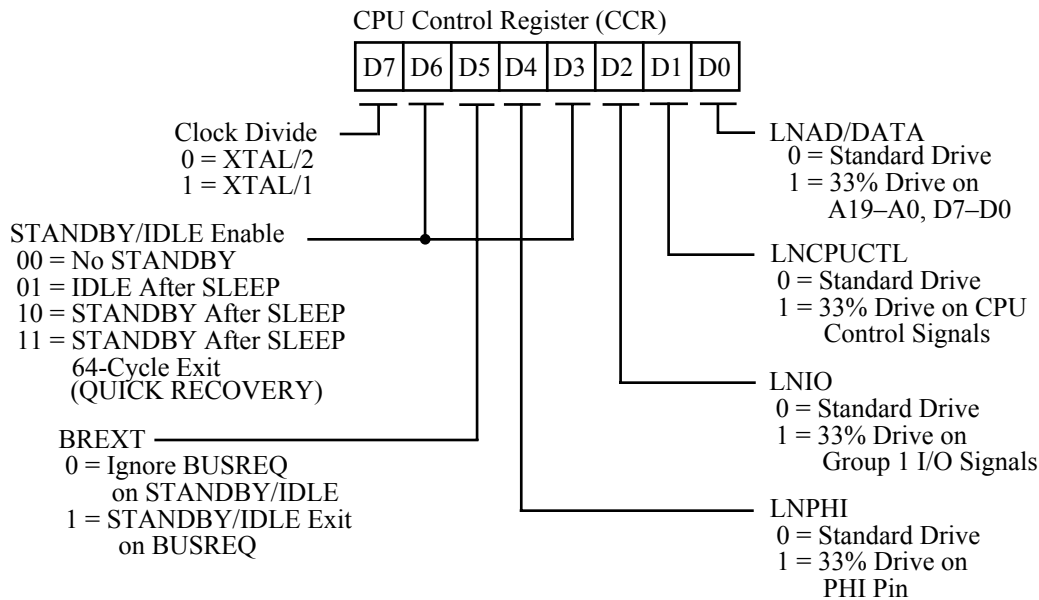

Figure 31. CPU Control Register (CCR) Address 1FH
**CPU Control Register (CCR).** This register controls the basic clock rate, certain aspects of Power-Down modes, and output drive/low noise options (Figure 31).